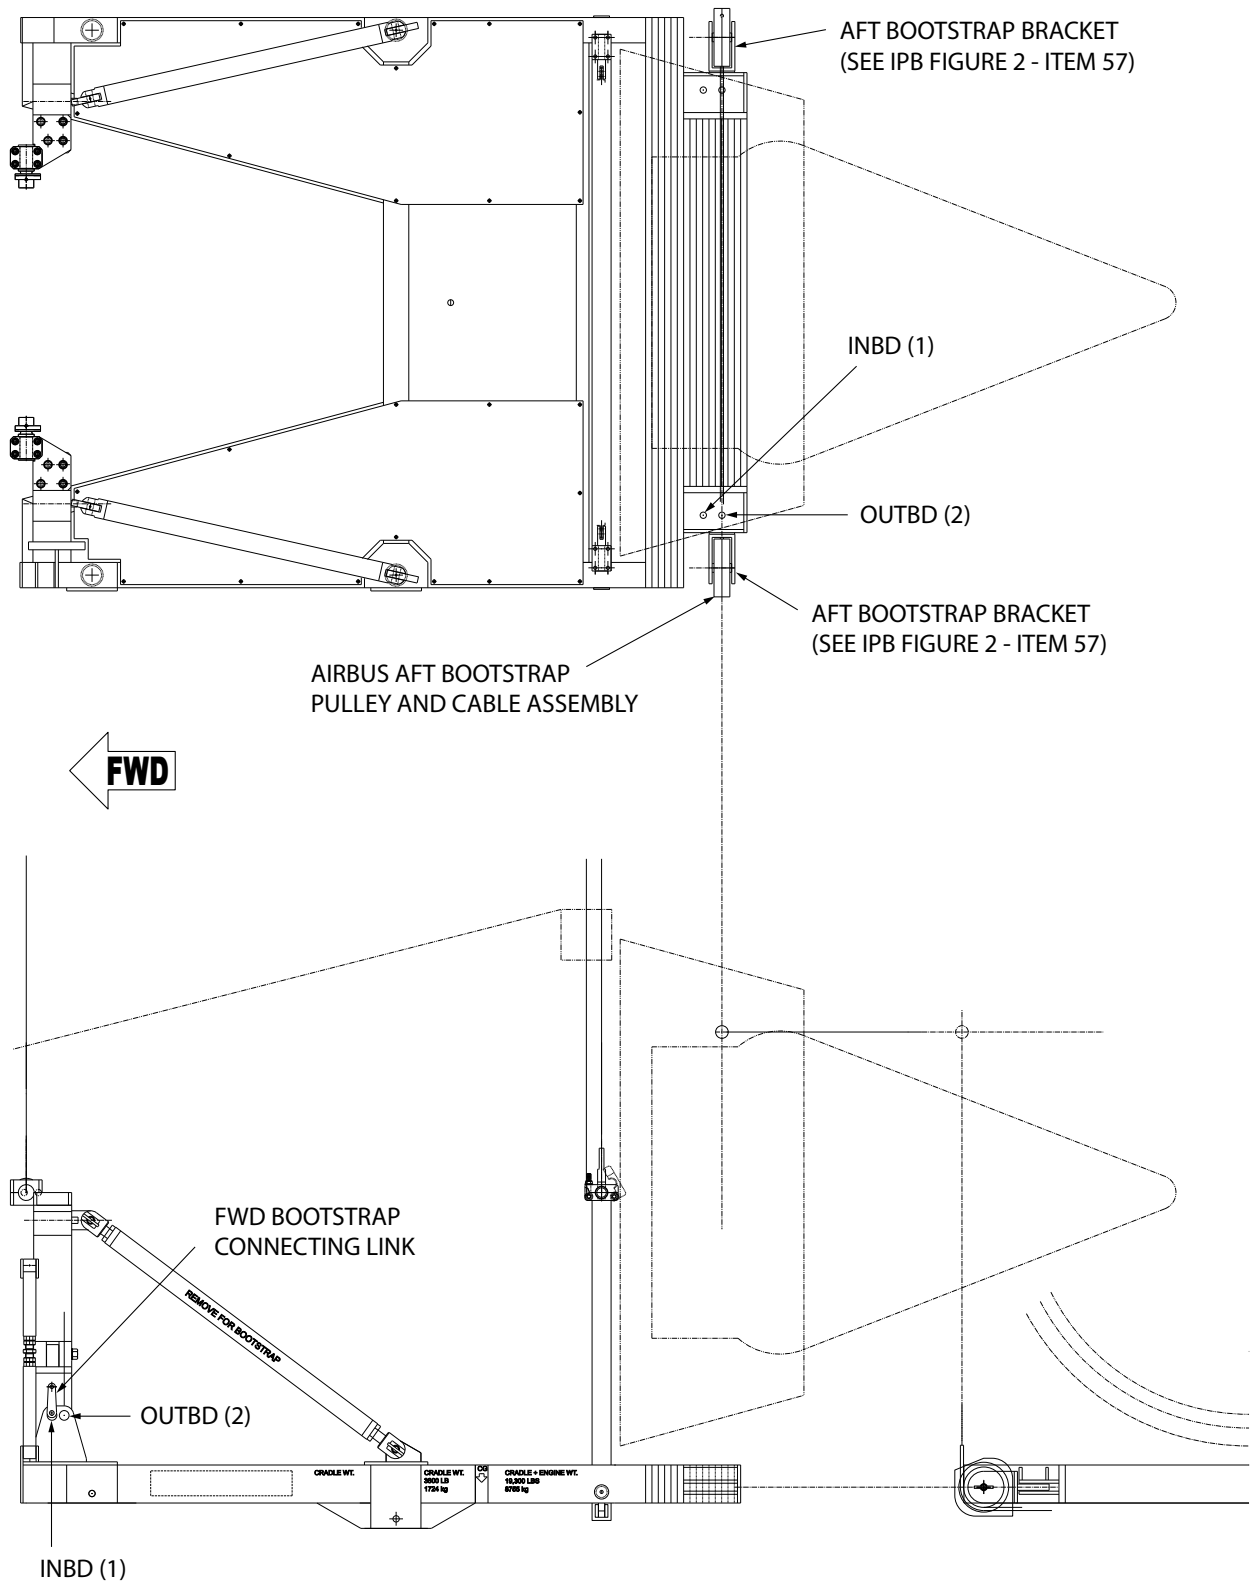

Figure 5.6-1 Bootstrap Attach Points
5.6 Engine Bootstrapping (Illustration Figure 5.6-1)